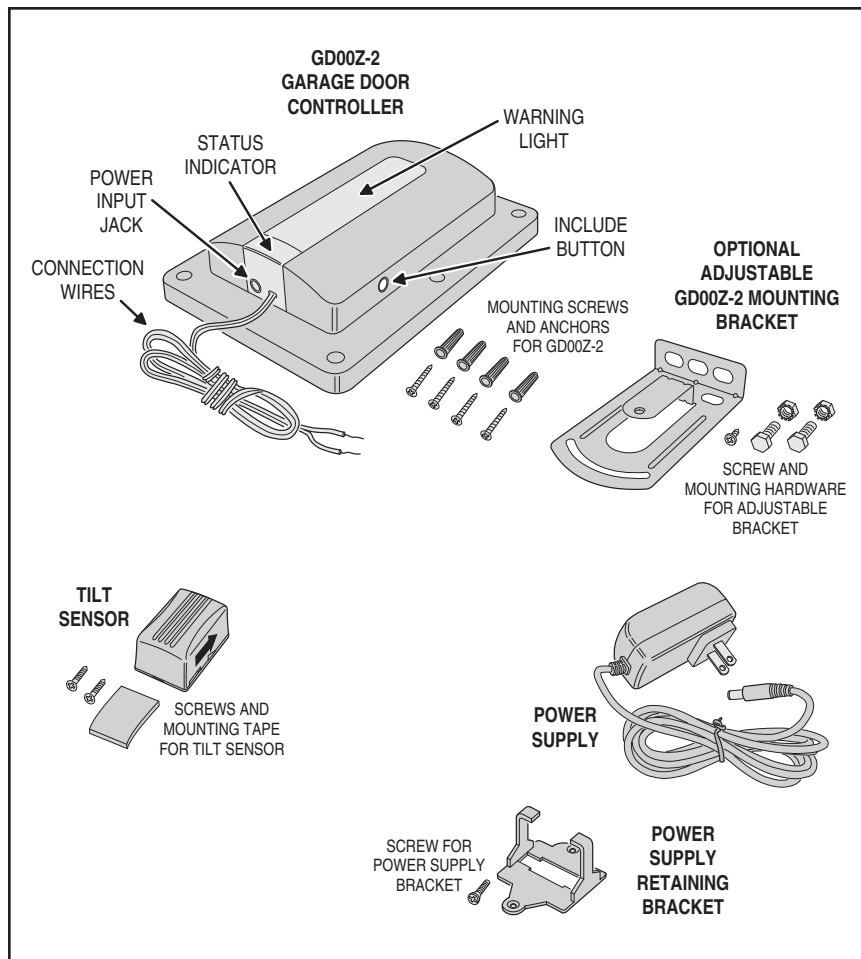

Figure 2. Package Contents
- ✓ **NOTE:** Before enrolling device to any Z-Wave network, or after removing it from any Z-Wave network, it is recommended that the Controller be factory reset. Reset the Controller by pressing the **Include** button 5 times. (Location of Include button is shown in Figure 2 on Page 3). A quick beep followed by a longer beep will indicate proper reset of the GD00Z-2.
- At the Trigger Device screen, press and hold the Garage Door Controller's include button for 1 second (See page 3, Figure 2 for the location of the include button).